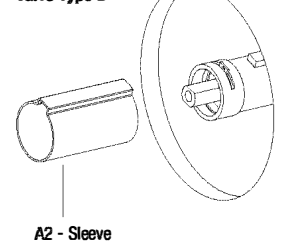

FIGURE 4
2. Locate the (C) faceplate. If the valve uses a diverter, remove the (G) diverter plug from the new faceplate. Using the (H) diverter foam gasket, remove the backing paper and adhere to the back of the faceplate around the diverter hole. If diverter is not used, do not remove the (G) diverter plug, discard the (H) diverter foam gasket and continue on to Step 3.
Valve type A uses the same (D1) faceplate insert with the larger inner opening (figure 4). Valve type B uses the (D2/3) faceplate insert with the smaller inner opening (figure 5). Note the (B) screw locations for type B valves and select the correct insert. Using the correct sleeve gasket, remove backing paper and adhere to the back of the correct faceplate insert.